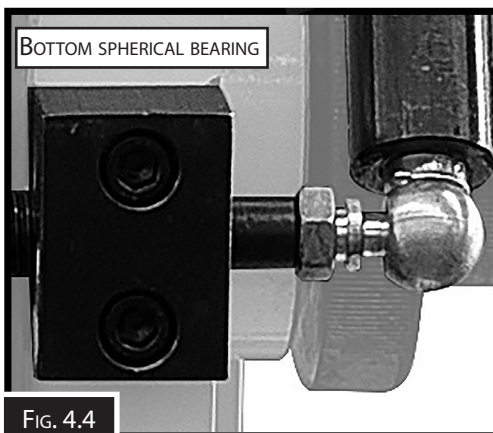

FIG. 4.4
2. Loosen the hex nut and rotate the spherical (Fig.4.4) bearing base until the roller is perpendicular with the main rollers.